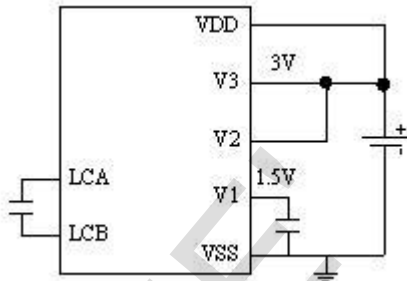

Figure 13-6 1/2 bias LCD power system circuit connection example
- 1/2 bias power system (Please see Figure 13-6 and 13-17)